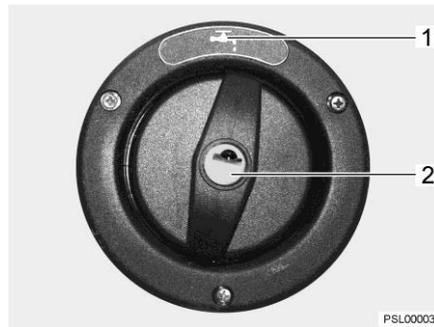
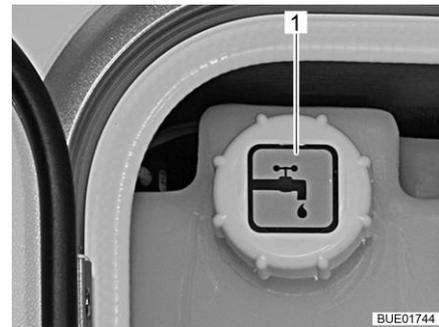

Fig. 249 Drinking water filler neck in the vehicle's side wall
Fig. 250 Drinking water filler neck in service unit (alternative)
The drinking water filler neck is marked with the symbol "☞" (Fig. 249,1 or Fig. 250,1) and is installed either in the vehicle's side wall or in the service unit.
- Insert key into locking cylinder (Fig. 249,2) and turn a quarter turn in an anticlockwise direction.